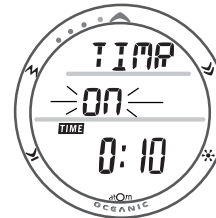

Fig. 20 - CD TIMER STARTED
- Pressing and releasing the S button momentarily (< 2 seconds) will toggle from OFF to ON and Start the Timer (Fig. 20).